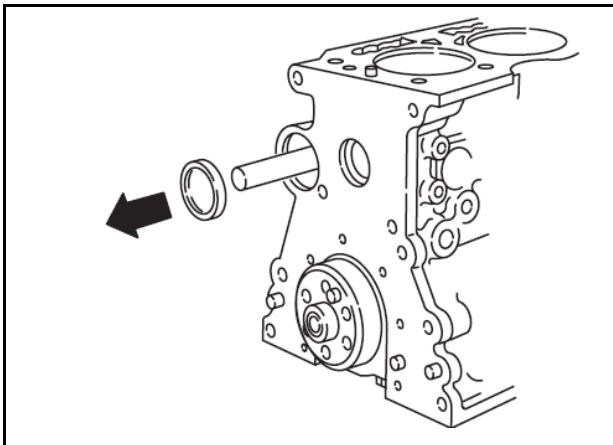

Fig.8-Removing Camshaft Plug
1. Remove rear camshaft plug, Fig.8.